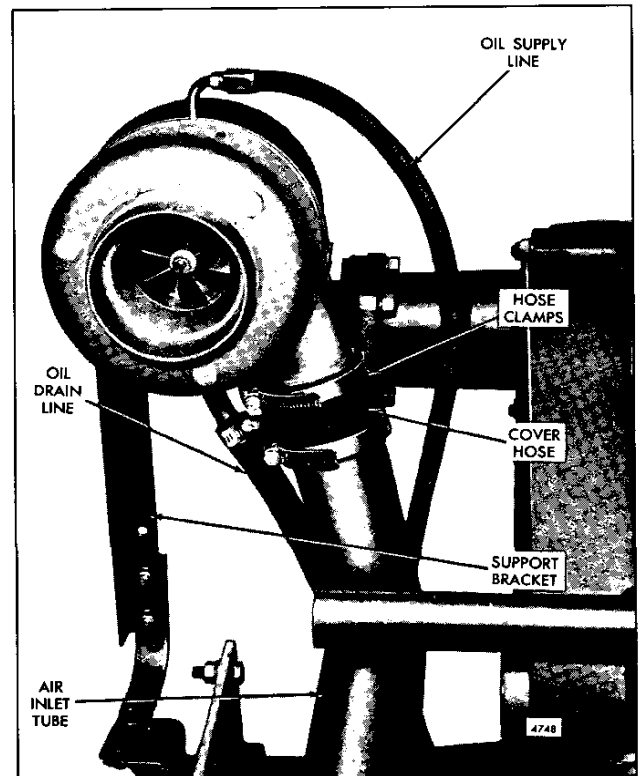

Fig. 6 – Turbocharger Support Bracket, Oil Lines and Air Inlet Tube
1. Refer to Fig. 6 and remove the turbocharger support bracket.